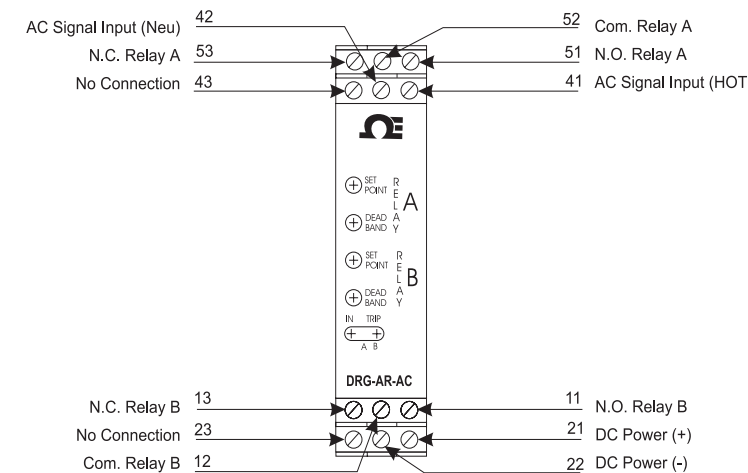

Figure 6: Wiring Diagram for DRG-AR-AC
1. After configuring the dip switches, connect the input to a calibrated AC source and apply power. Refer to the terminal wiring (Figure 6).